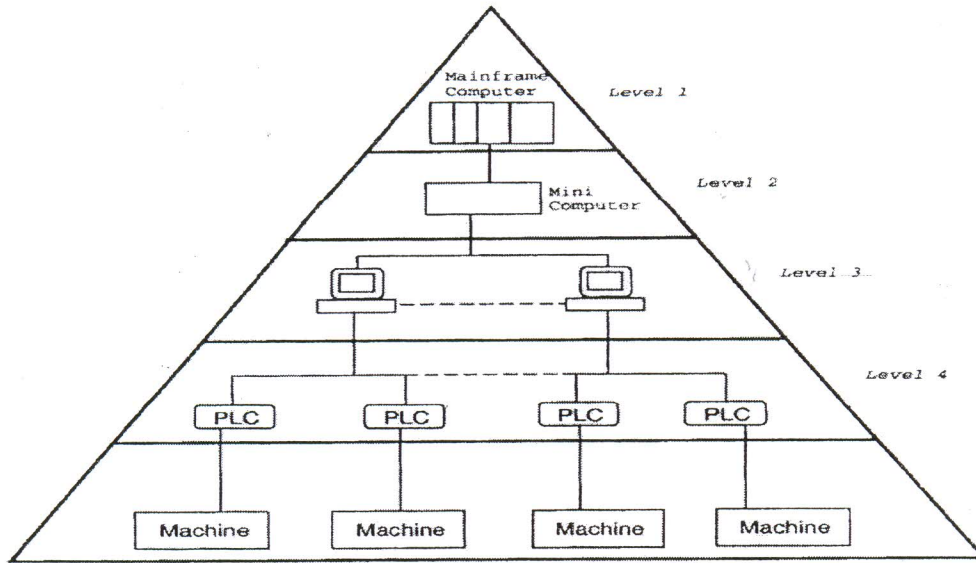

Figure 3: Hierarchy in an Automated Factory
- c) Modify the control circuit in Figure 3 by adding a yellow indicator light and another start button (ST2). The yellow indicator light shows that the power supply is ON and when one of the two start button is pressed (ST1 or ST2), the yellow light will OFF. (10 marks)
(a) Answer all questions depending on the **Figure 3** below